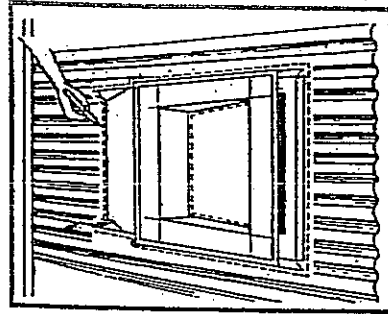

Fig. 2
2. Climb onto the roof and locate the position of your installation. Mark the centre of the intended opening and place the metal Flashing Tray Assembly (i.e. minus glazing) down on the corrugated iron roof. Check to see that the centre you have marked is roughly in the centre of the Flashing Tray opening and then mark around the Flashing Tray cut outs and the internal opening of the tray with a marking pen as shown. (Fig. 2)